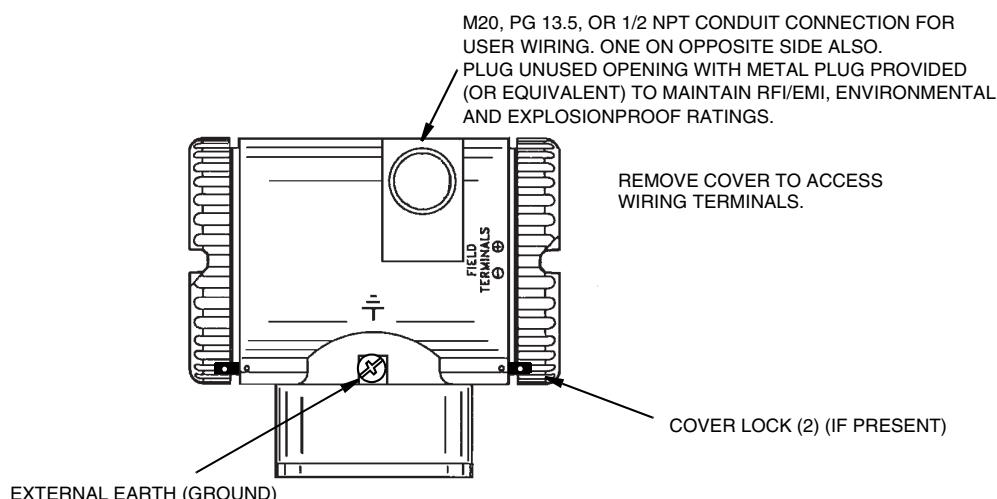
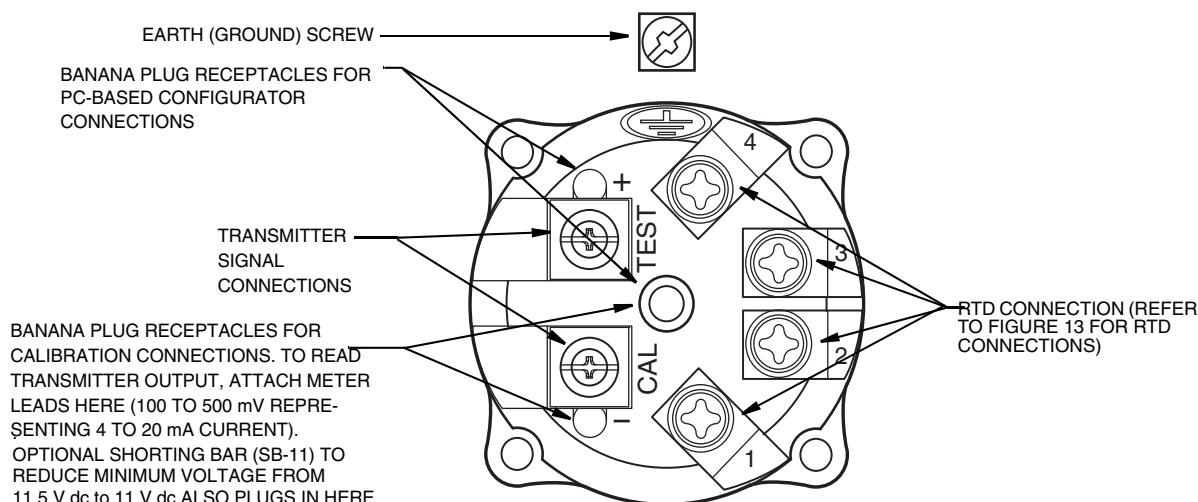
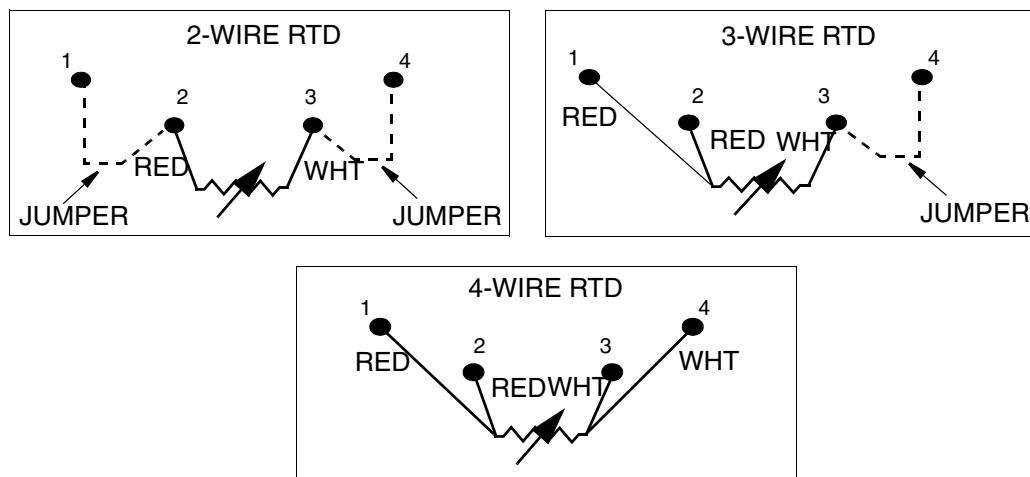

Figure 7. Accessing Field Terminals
Figure 8. Identification of Field Terminals
Figure 13. RTD Wiring
Electronic housing cover locks, shown in Figure 7, are provided as standard with certain agency certifications and as part of the Custody Transfer Lock and Seal option. To lock the covers, unscrew the locking pin until approximately 6 mm (0.25 in) shows, lining up the hole in the pin with the hole in the housing. Insert the seal wire through the two holes, slide the seal onto the wire ends and crimp the seal.
For access to the field terminals, thread the cover lock (if present) into the housing to clear the threaded cover and remove the cover from the field terminals compartment as shown in Figure 7. Note that the embossed letters **FIELD TERMINALS** identify the proper compartment. Identification of terminals is shown in Figure 8.
2. Run signal wires (0.50 mm^2 or 20 AWG, typical) through one of the transmitter conduit connections as shown in Figure 7. Use twisted pair to protect the 4 to 20 mA output and/or remote communications from electrical noise. Maximum recommended length for signal wires is 3050 m (10000 ft)
6. Connect the power supply and receiver loop wires to the “+” and “–” terminal connections shown in Figure 8.
5. Connect an earth (ground) wire to the earth terminal in accordance with local practice. Ground terminal is shown in Figure 8.
6. Connect the signal wires to the transmitter "+" and "-" terminal connections shown in Figure 8.
7. The HART Communicator or PC-Based Configurator can be connected via banana plugs to the top two receptacles (designated TEST) on the terminal block in the field terminal compartment as shown in Figure 8 or any other convenient location in the loop (subject to hazardous location restrictions).
Connect your RTD to terminals 1, 2, 3 and 4. Locations are shown in Figure 8. Wire per Figure 13.